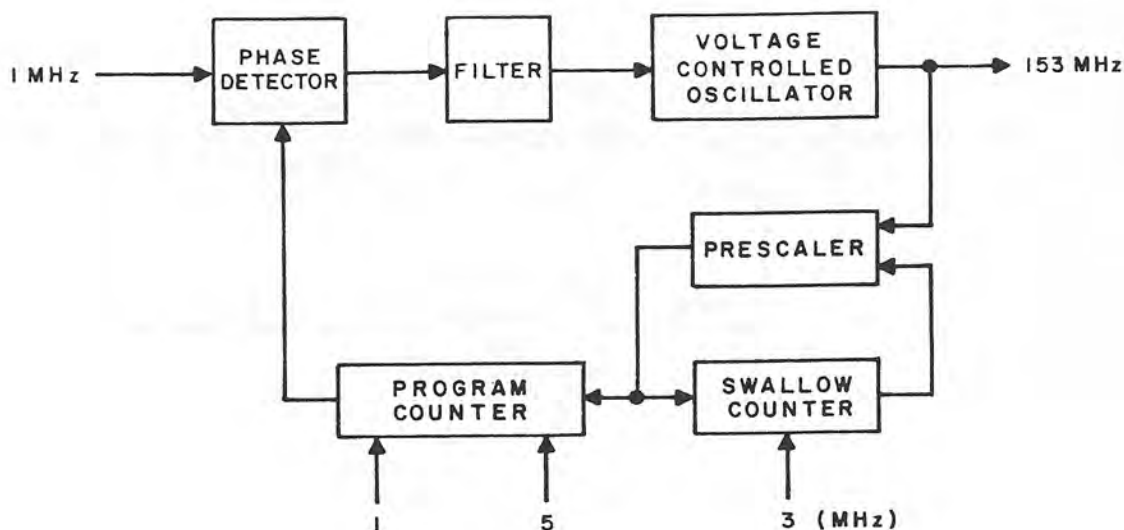

Figure 3-11. Prescaler Dividing Technique
f. Two-Modulus Prescaler. An example of the two-modulus prescaling technique is given in figure 3-11. For illustration, a vco output of 153 MHz is desired. Selected into the programmable counter are the two most significant digits, 1 and 5. Selected into the swallow counter is the least significant digit, 3. Under lock conditions, the divider has an input of 153 MHz and an output of 1 MHz.